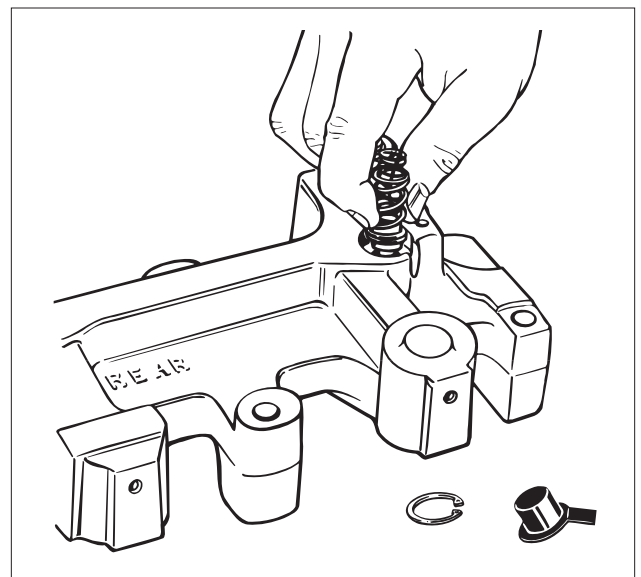

FIG. 18
2. Slowly remove cover until spring pressure ceases, then remove the control valve springs and collar (see Fig. 18).